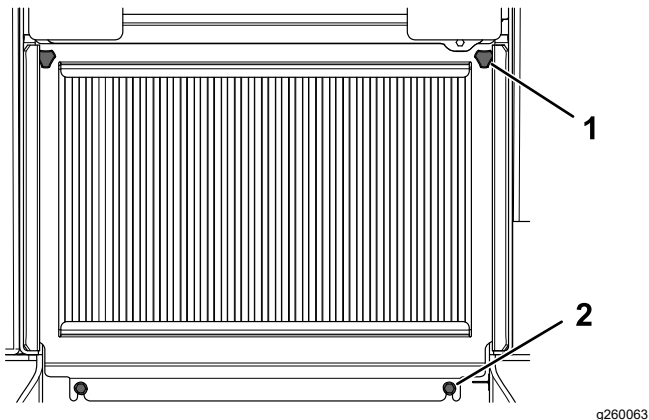

Figure 38
2. Loosen the 2 bolts securing the bottom of the screen (Figure 38).
3. Loosen the 2 knobs on the screen (Figure 38).
1. Knob (2)
2. Bolt (2)
4. Lift the screen and remove it (Figure 38).